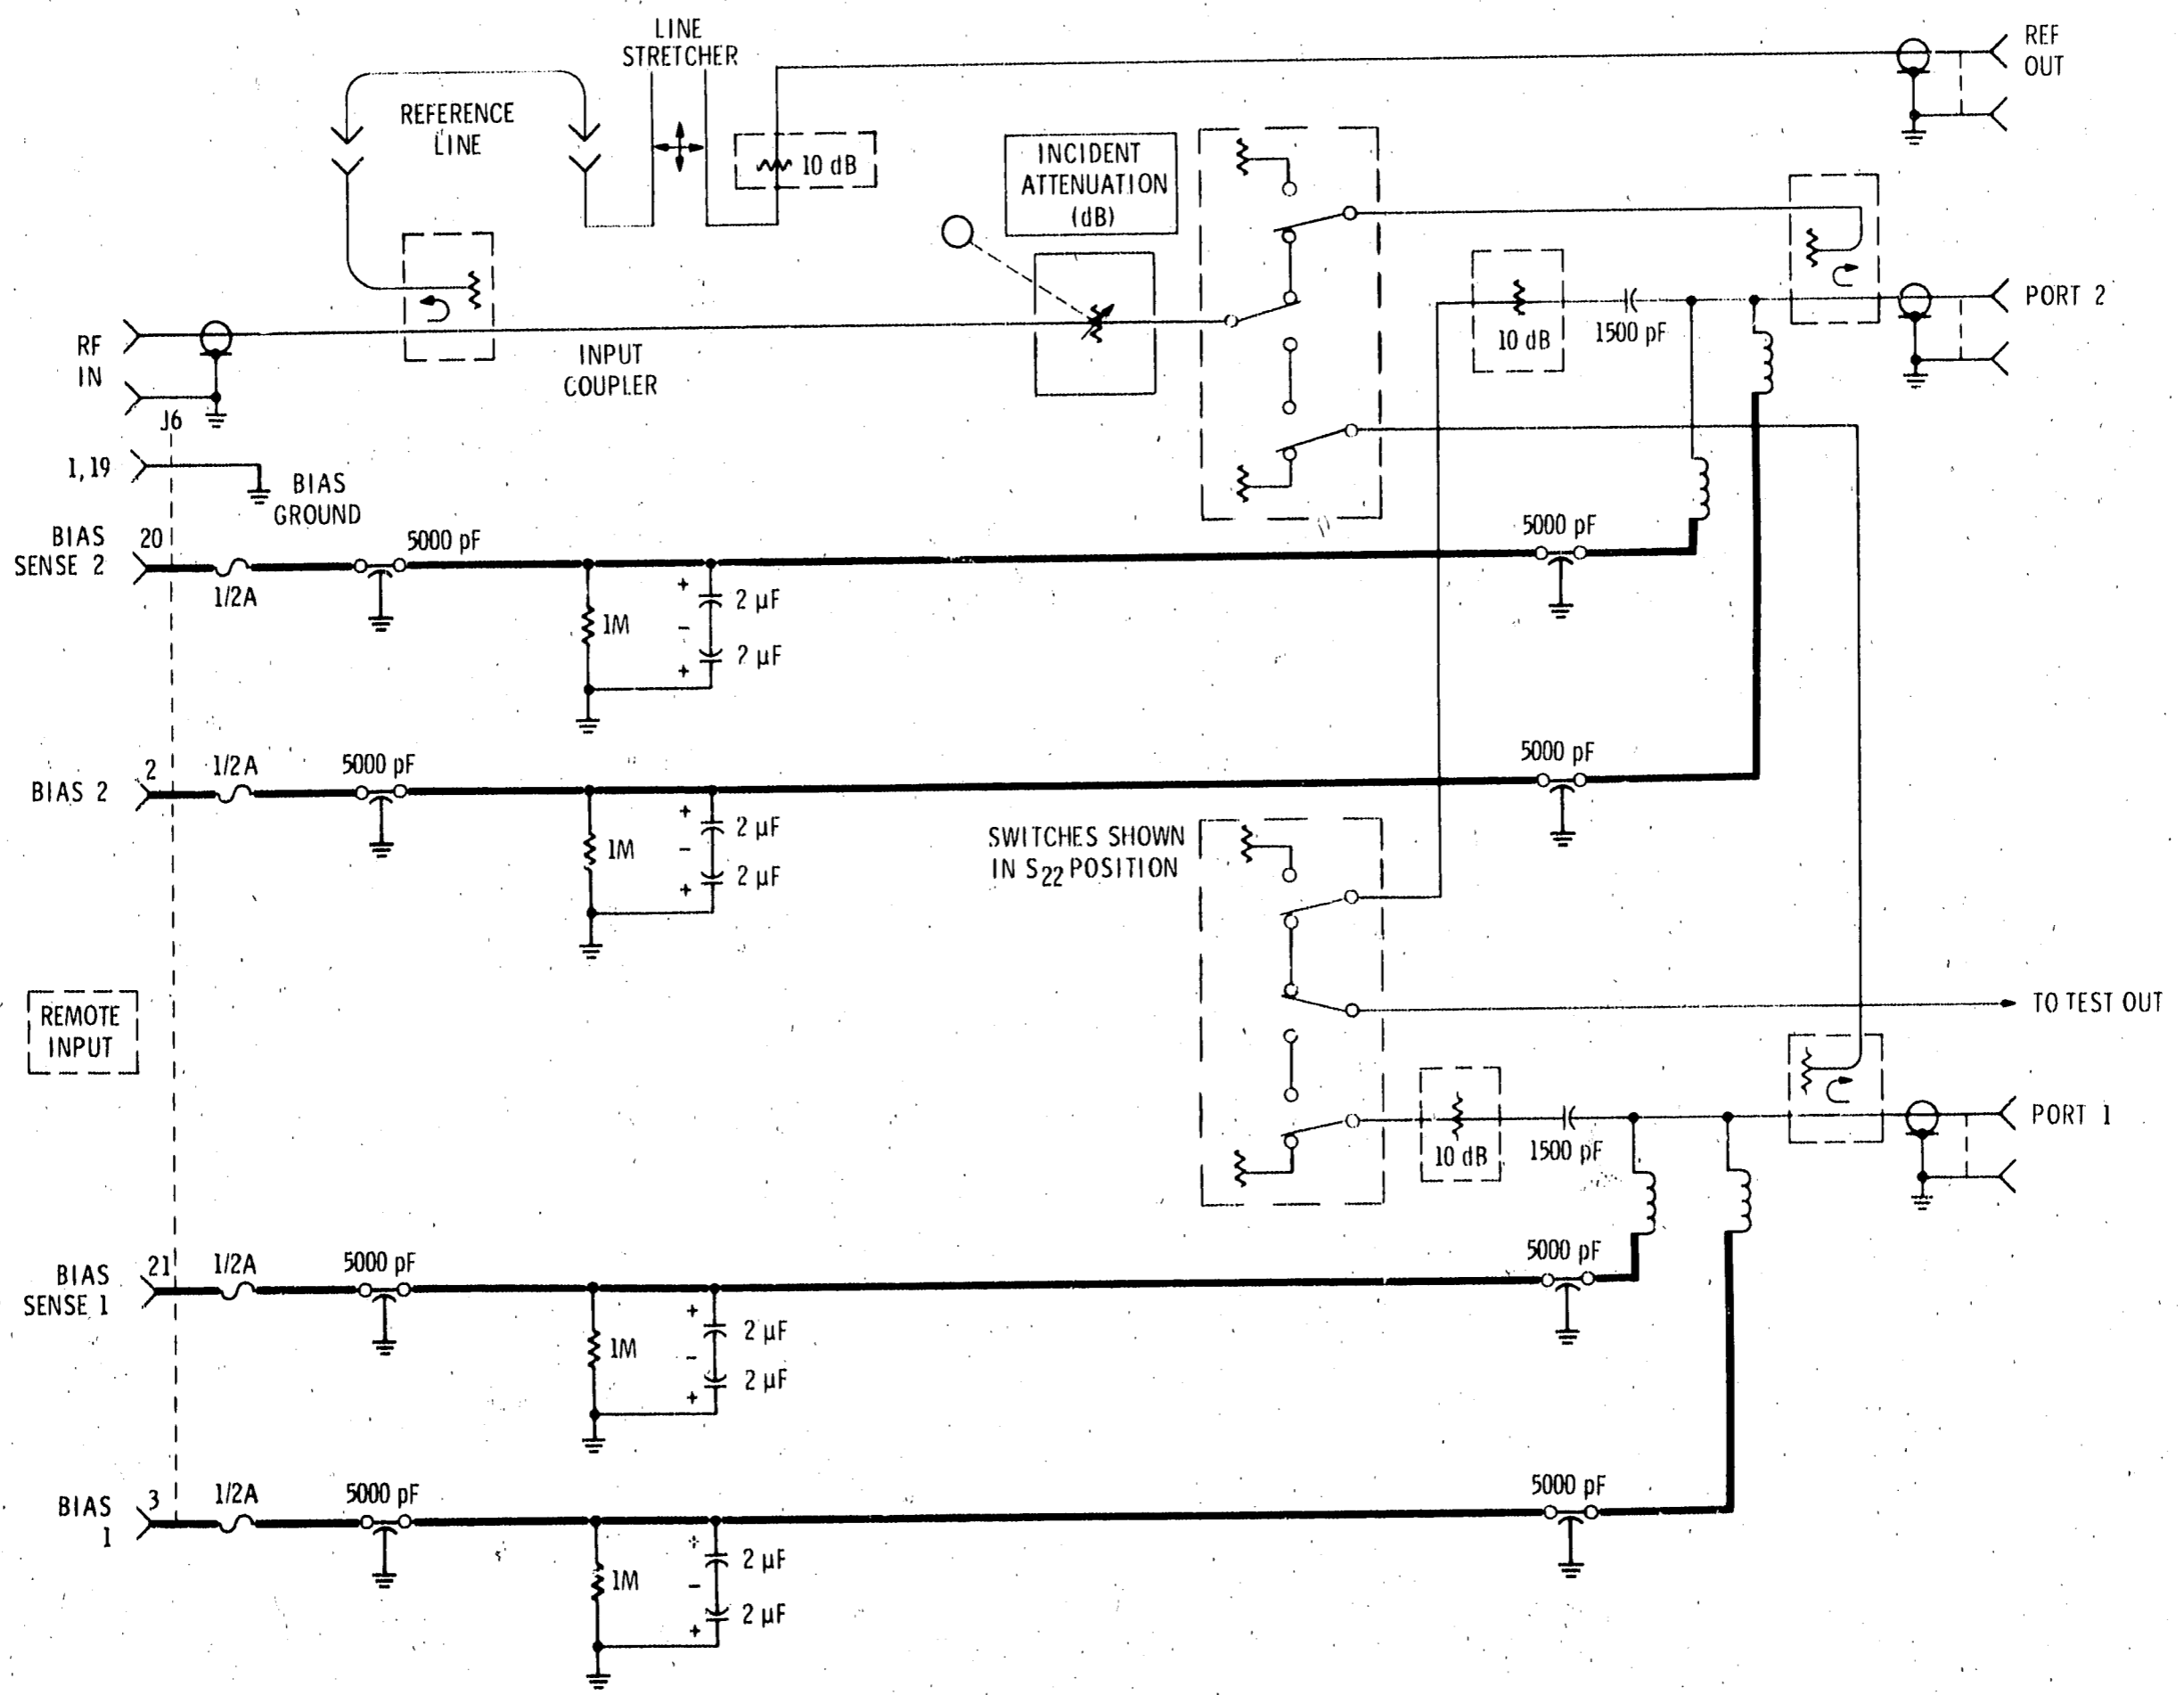

Figure 3-8. Bias Voltage Input Connections
**3-22.** Note that the bias supplies can be connected with either the input or output circuit voltage connected to either port terminal. The input bias voltage is normally connected to the port 1 Bias and Bias Sense terminals and the output circuit voltage connected to port 2 Bias and Bias Sense terminals (see Figure 3-8). This convention will also make the normal (forward-gain) signal ( $S_{21}$ ) flow from the left to right when the 11608A Transistor Fixture is used. When using the 11608A, or any other application where the bias supply can be shorted readily, the bias supply should be current-limited.